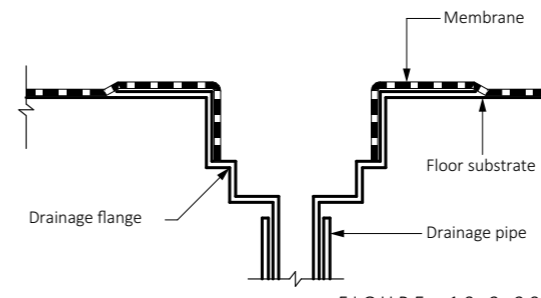

FIGURE: 10.2.29
- A DRAINAGE FLANGE MUST BE INSTALLED WITH THE WATERPROOFING MEMBRANE TERMINATED AT OR IN THE DRAINAGE FLANGE TO PROVIDE A WATERPROOF CONNECTION (SEE FIGURE 10.2.29).
- FOR MEMBRANE DRAINAGE CONNECTIONS IN OTHER FLOORS, A DRAINAGE FLANGE MUST BE INSTALLED WITH THE WATERPROOFING MEMBRANE TERMINATED AT OR IN THE DRAINAGE FLANGE TO PROVIDE A WATERPROOF CONNECTION (SEE FIGURE 10.2.29).
- WHERE AN IN SITU SHOWER TRAY IS USED, THE MEMBRANE MUST BE ABLE TO FORM A PERMANENT WATERPROOF SEAL TO THE DRAINAGE RISER OR DRAINAGE FLANGE (SEE FIGURE 10.2.29).